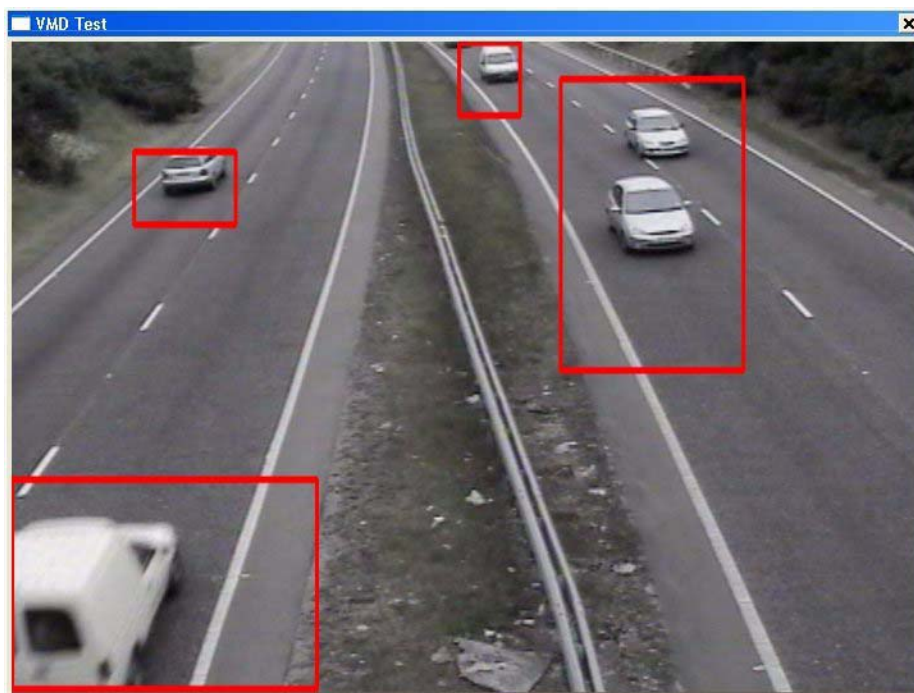

Figure 6-3: Test of VMD for the default ROI
Start Test	Provides a live test of the current VMD configuration. See Figure 6-3 on page 47.
3. Before applying the configuration, you can test its performance by clicking the **Start Test** button. This opens a special preview screen shown in Figure 6-3 on page 47, which shows images currently being captured from the selected camera. If there are objects moving in the camera view, they are outlined on the test screen with a red coloured box. If there is currently no motion in the camera view, you may need to arrange for someone to move in the camera view for your test.